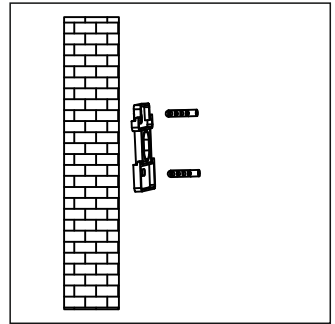

Fig.3
**Step 2:** Identify the location and direction of any hidden supply cables or service pipes before drilling fixing holes. Use the mounting kit and mark the position of the fixing holes (Fig.3). Ensure that the fitting is level and the wall is capable of holding the weight of the product.